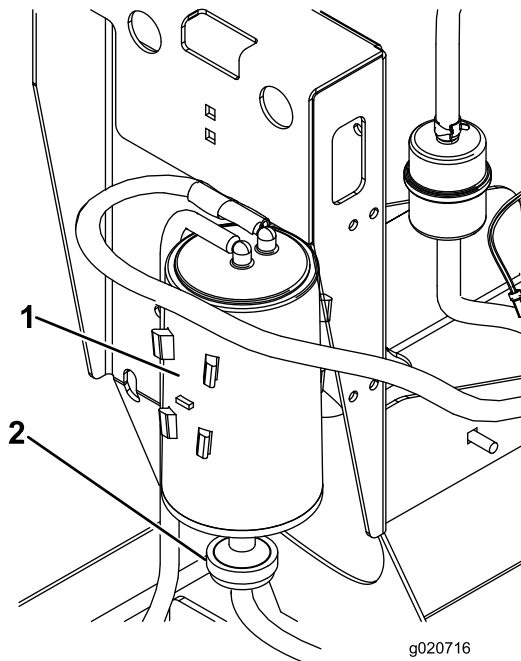

Figure 18
2. Disconnect the hose from the carbon canister air filter (Figure 18).
3. Remove and discard the carbon canister air filter (Figure 18).